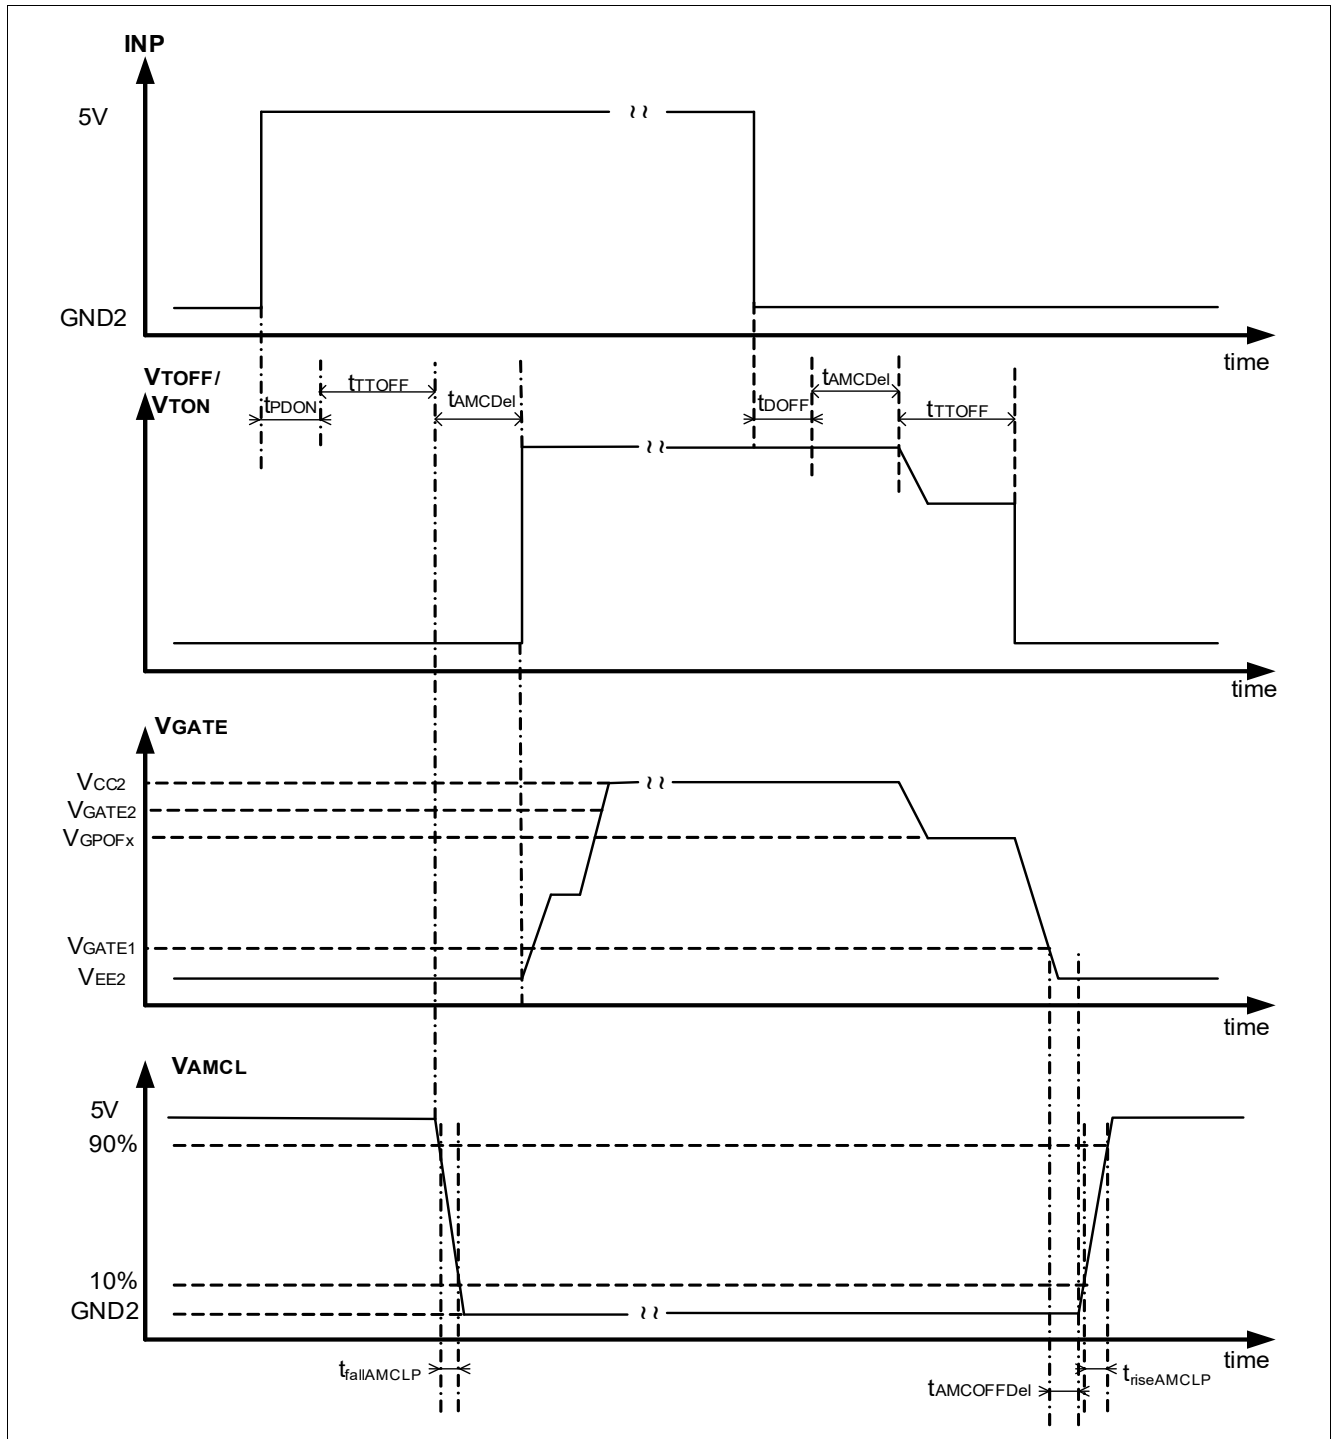

Figure 16 AMCLP operation
*Note: The timing  $t_{DOFF}$  doesn't consider the **SCFG.AMCLD** setting (Figure 16). The regular turn-on/off processing will be delayed by the **SCFG.AMCLD** value if setting is  $> 0$  (refer to Table 59).*
At turn-on, in order to avoid the risk of cross-current in the output stage of the device, a delay can be generated in order to delay the PWM control signal (**Figure 16**). The delay is configured via bit field **SCFG.AMCLD**.